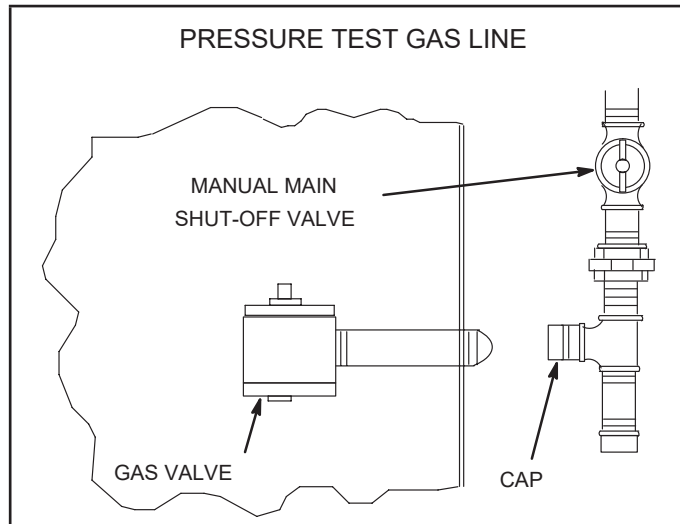

FIGURE 15
When pressure testing gas lines, the gas valve must be disconnected and isolated. Gas valves can be damaged if subjected to more than 0.5 psig (3.48kPa). See FIGURE 15.
- 3 - Connect thermostat wiring to Unit Controller on the lower side of the controls hat section. Wire as shown in FIGURE 15 for electro-mechanical and electronic thermostats. If using other temperature control devices or energy management systems see instructions and wiring diagram provided by manufacturer.